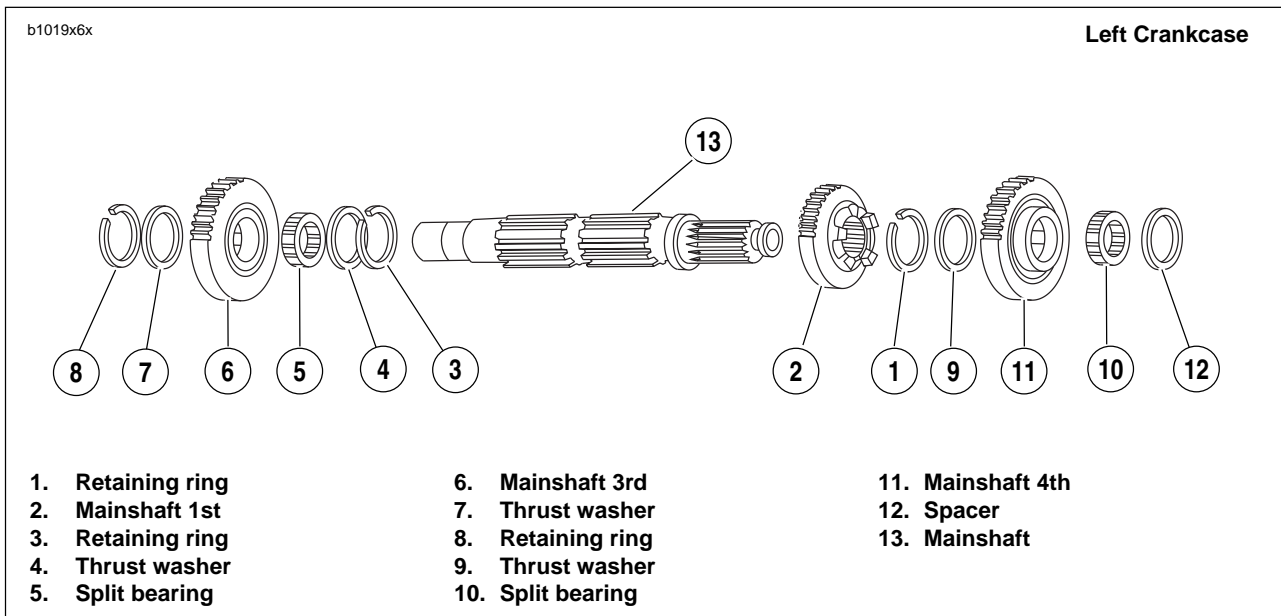

Figure 6-65. Transmission Mainshaft Assembly/Reassembly
1. See Figure 6-65. Install **new** retaining ring (1) onto mainshaft in the first ring groove from the threaded end of the mainshaft.
2. Slide mainshaft 1st gear (2), identified by two grooves in gear teeth, onto mainshaft with the fork groove facing mainshaft 4th gear (10).
3. See Figure 6-65. Install **new** retaining ring (3).
- a. Install thrust washer (4) onto mainshaft.
- b. Install split bearing (5) onto mainshaft.
- c. Install mainshaft 3rd gear (6) onto shaft over bearing (5). 3rd gear is installed with shifting lugs away from 1st gear mainshaft.